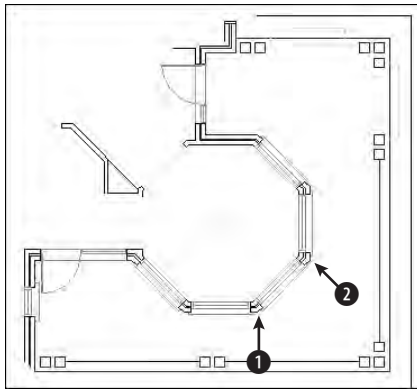

Figure 14-12: A section of a floor plan of a house
2. Save the file as `ab14-03.dwg` in your AutoCAD Bible folder. This is the same drawing used in the previous Step-by-Step exercise, as shown in Figure 14-12. OSNAP should be on. Set running object snaps to endpoint and intersection. If the Dimension toolbar isn't visible, choose View ⇨ Toolbars and check Dimension. Click Close.
Choose ① in Figure 14-12.
Specify second extension line origin: Choose ② in Figure 14-12.